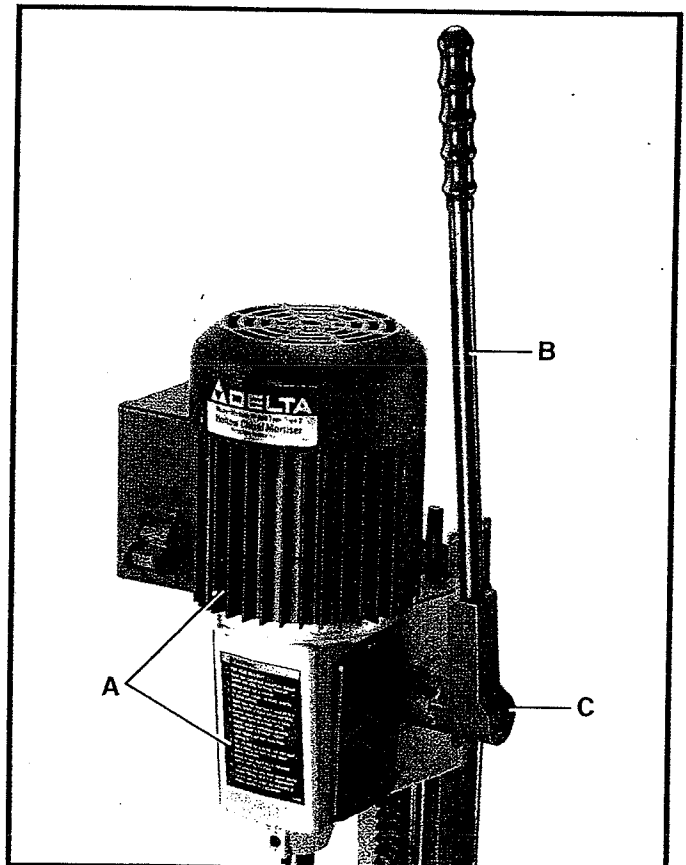

Fig. 28
1. The head (A) Fig. 28, is raised and lowered by means of the lever (B). For maximum leverage during the mortising operation, the lever (B) can be repositioned by pulling out the hub (C) of the lever assembly and repositioning hub on the pinion shaft.